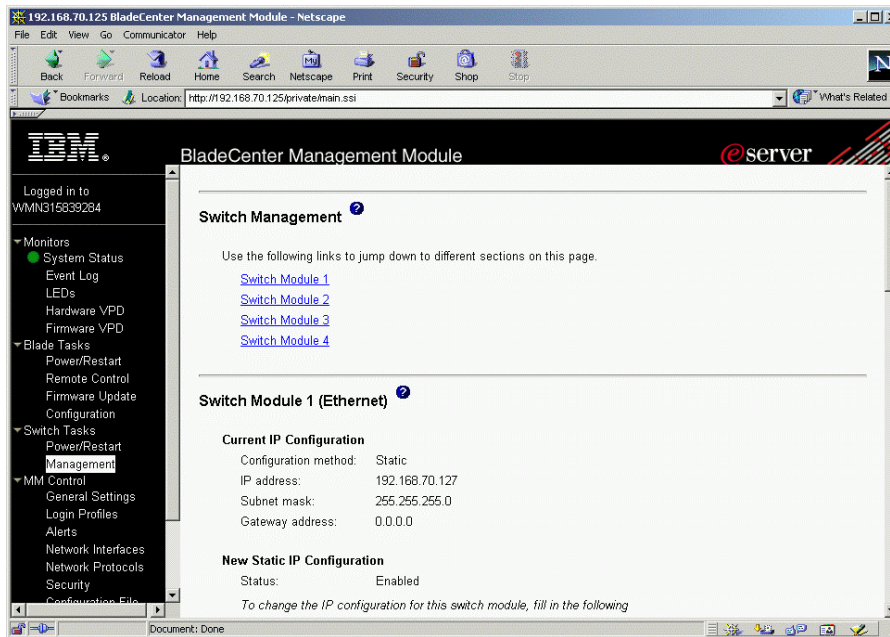

Figure 6. Switch Management
- The Switch Management screen, shown in Figure 6, is displayed. To enable the external ports on the switch module associated with eth0, click **Switch Module 2** to access the section for switch module 2.